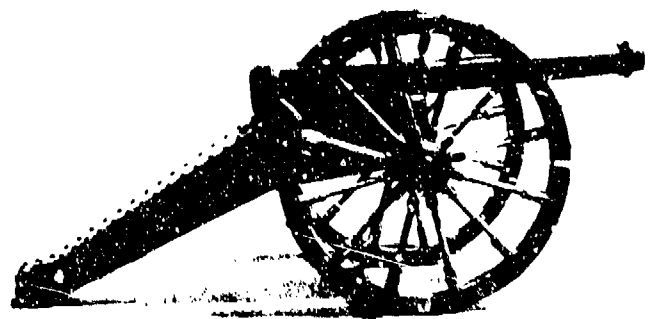

Figure 1-5. Mobile artillery piece circa 1650.
c. During the period 1600-1850, tremendous advances were made in the field of bronze and cast iron metallurgy. This era saw the development and standardization of calibers, the use of wheels and carriages for mobility (fig 1-5), and the first attempts to use a rifled bore with elongated projectiles for increased accuracy and range. This era also saw the end of the giant bombards which had defeated and eliminated the huge stone castles and fortresses which had dominated that period of history.